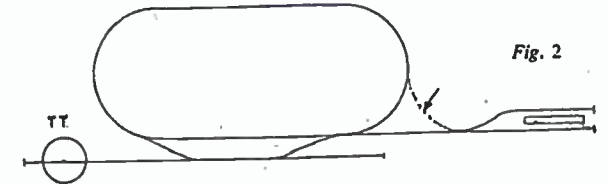

Fig. 2
siding (D) (Fig. 1) increased in length to form a still smaller terminal station, as shown in Fig. 2.